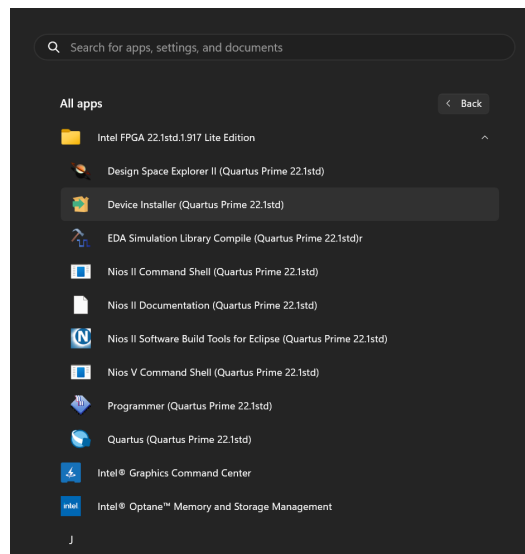

Figure 19: Finding the Quartus device installer in the Windows Start Menu.
- a. Select "Intel FPGA ..." and then "Device Installer (Quartus ...)" as shown in Figure 19.